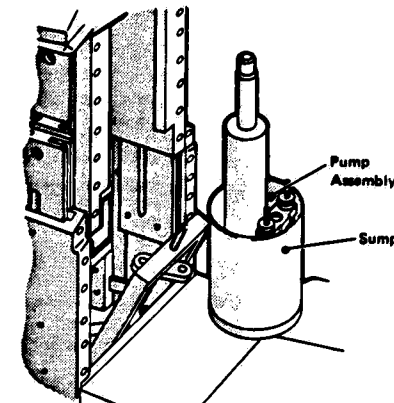

Figure 5-5. PUMP REMOVED FROM TABLE.
11. Lift the sump and pump assembly out of the base area (Figure 5-5).